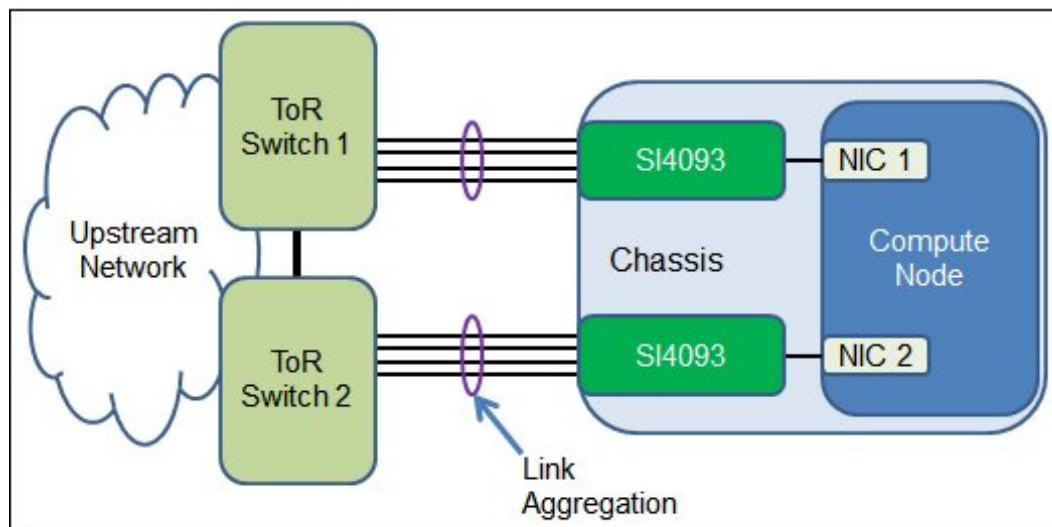

Figure 6. SI4093 connectivity topology - Link Aggregation
The most common SI4093 connectivity topology, which can be used with both Lenovo and non-Lenovo upstream network devices, is shown in Figure 6.
**Dual isolated SAN fabrics:** If you plan to use FCoE and follow a dual isolated SAN fabric design approach (also known as *SAN air gaps*), consider the SI4093 connectivity topology shown in Figure 6 (Link Aggregation).